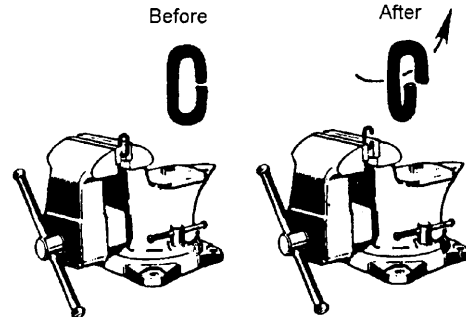

Figure 8
5. Using an adjustable wrench, twist the link horizontally from front to back. (Figure 8) Open just far enough to insert (or remove) a second chain link.